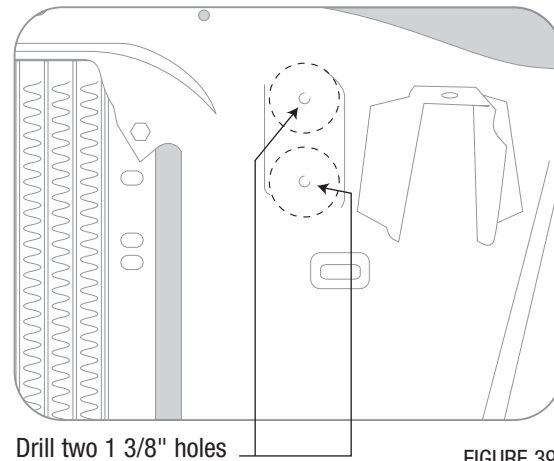
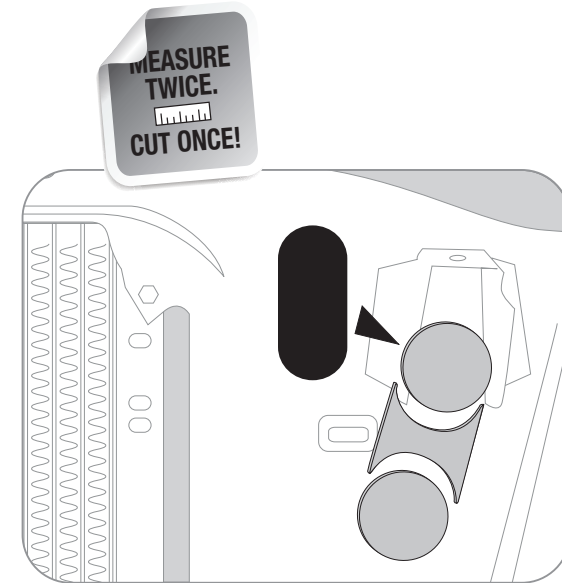

FIGURE 39
FIGURE 38
**STEP SIX:** Your OEM radiator support was designed to support a A/C condenser and conveniently has two small indentations on the drivers side core support (see figure 38, aftermarket core supports may or may not have these indentations). Locate these two small indentations and drill a 1 3/8" hole thru each (be sure to check for any obstructions before drilling, and remove any sharp burrs from the drilling before continuing, see figure 38), then the area between the two holes will be easy to remove (example figure 39). You'll route the discharge hose to the compressor will go thru this hole, as well as the liquid hose and the wiring harness plug for the high-pressure switch.